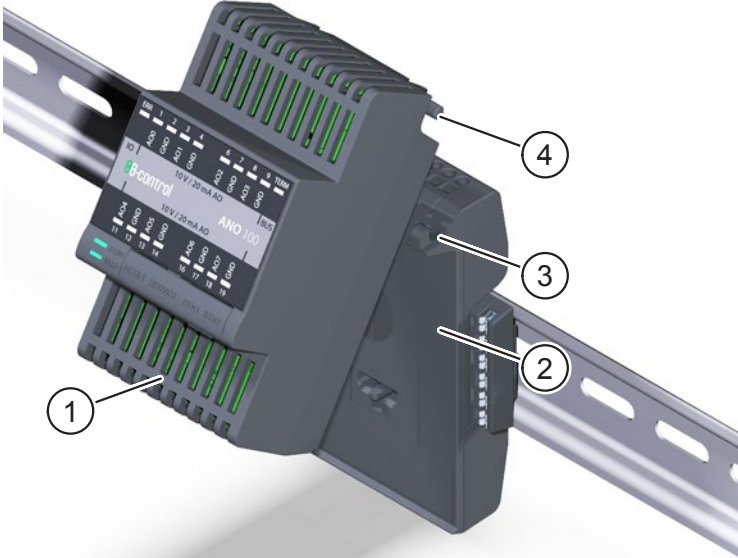

Fig. 6: Install the electronic module
- ▶ Insert the pivot axes (item 4 in Fig. 6) of the electronic module (item 1 in Fig. 6) into the hooks (item 3 in Fig. 6) of the backplane (item 2 in Fig. 6).